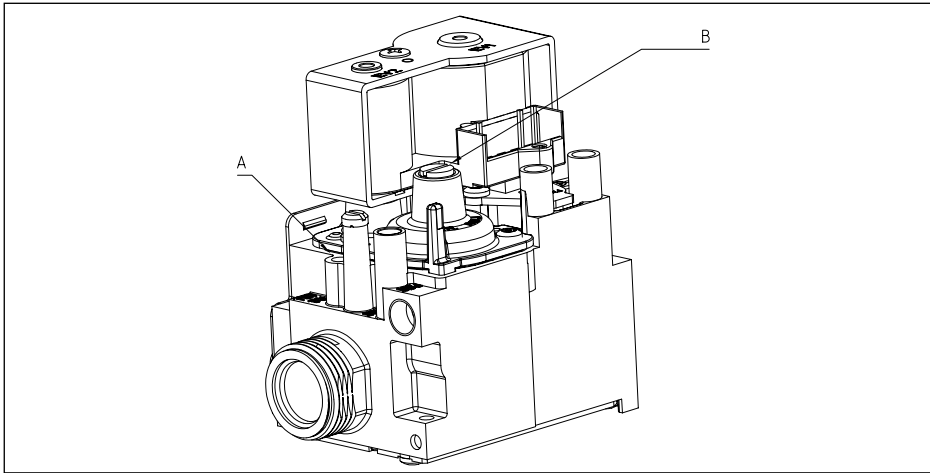

Fig. 23 Setting screws
The CO₂ and O₂ levels can be adjusted by following the procedure below. Any adjustment required can be done via the setting screws on the gas block, see *Fig. 23*.
- After reaching the full load speed, allow the boiler temperature to rise and settle to about 70°C, measure the O₂/CO₂ percentage and compare it with the value in the table. Correct, if necessary, the gas/air ratio with the aid of set screw **A** on the gas block (see Fig. 23).
- Correct, if necessary, the gas/air ratio with the aid of set screw **B** on the gas block (see Fig. 23).